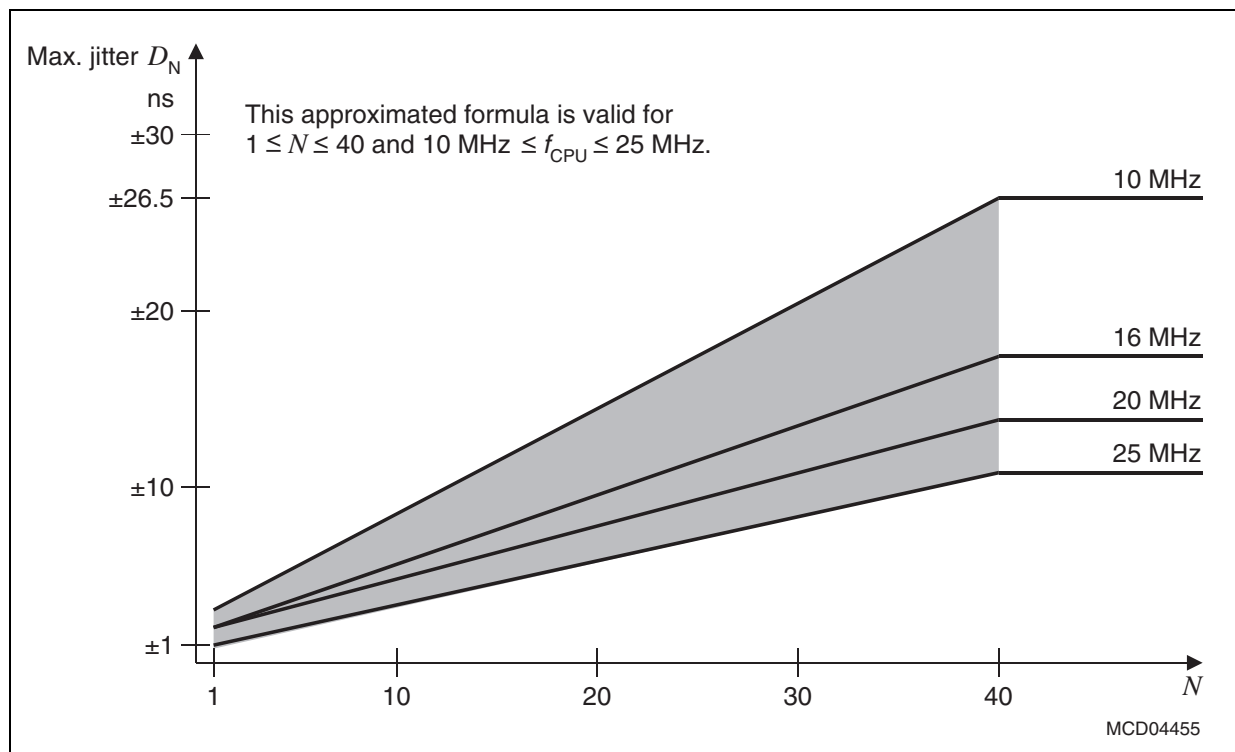

Figure 12 Approximated Maximum Accumulated PLL Jitter
The timings listed in the AC Characteristics that refer to TCLs therefore must be calculated using the minimum TCL that is possible under the respective circumstances. The actual minimum value for TCL depends on the jitter of the PLL. As the PLL is constantly adjusting its output frequency so it corresponds to the applied input frequency (crystal or oscillator) the relative deviation for periods of more than one TCL is lower than for one single TCL (see formula and **Figure 12**).
*Note: For all periods longer than 40 TCL the $N = 40$ value can be used (see **Figure 12**).*